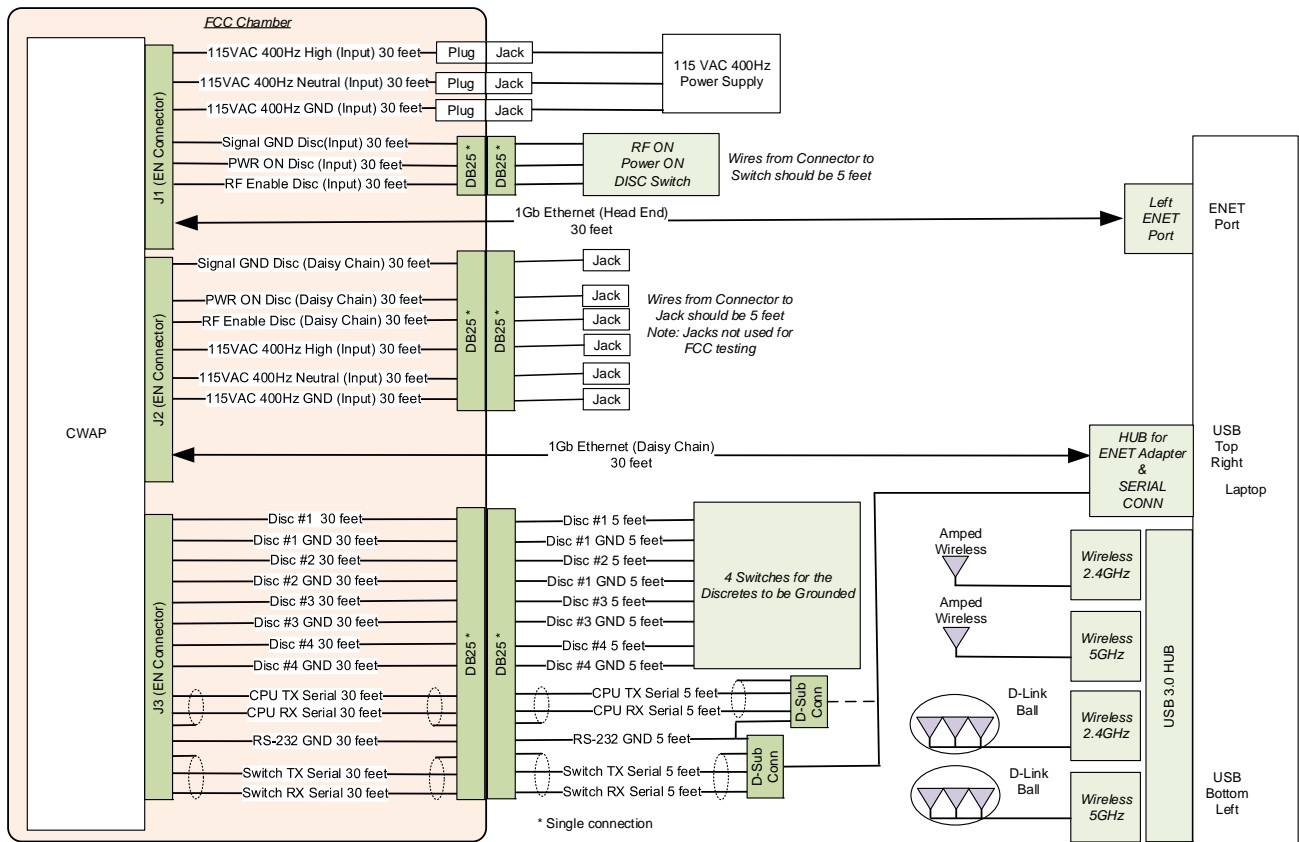

Figure 1: Functional Test: Test Setup
- d) Connect the USB Hubs to the laptop USB ports as specified in Figure 1.
- e) Install the J1, J2, and J3 connectors to the CWAP as specified in Figure 1.
- j) Connect the serial connection(s) to the 4-Port Hub as specified in Figure 1.
- k) Connect the Wi-Fi adapters to the 7-Port Hub as specified in Figure 1.